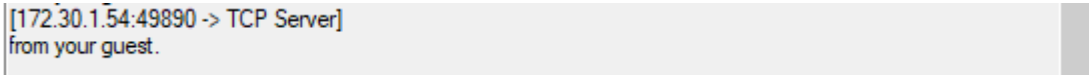

Figure 32: TCP/UDP Data Reception
When a session receives a message from a peer, the message is shown in the message window. See Figure 32.
- When DA16200 in DPM sleep state receives a TCP or UDP messages from a peer, it is shown in the message window like in Figure 32.